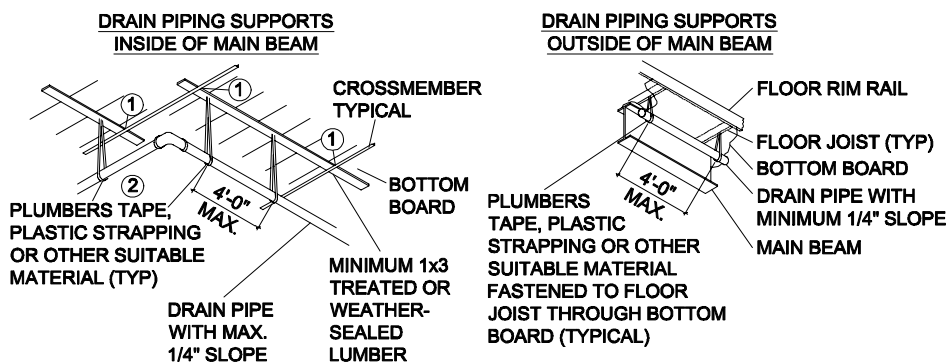

Figure 50. DWV pipe support options
5. **Install supports.** Install permanent drain line supports at a distance of four feet o.c. or less (see **Figure 50**). Alternate DWV pipe support may be used if approved by the local authority having jurisdiction.